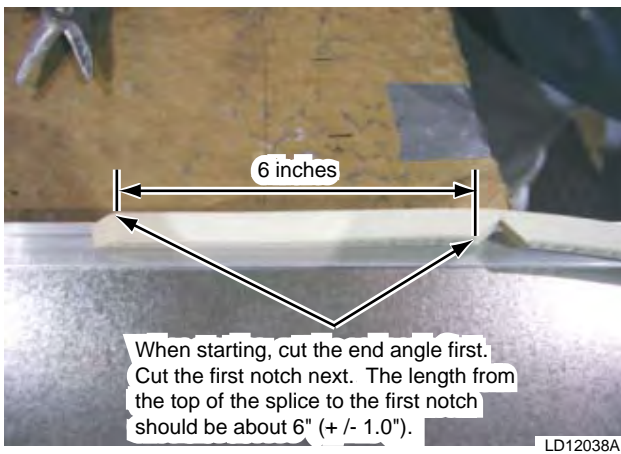

FIG. 5-28 – MARKING GASKET FOR FIRST CUT
- Measure in 6" (+/- 1.0") from the top of the overlapping splice and mark the gasket where the first cut is to be made (see Fig. 5-28).